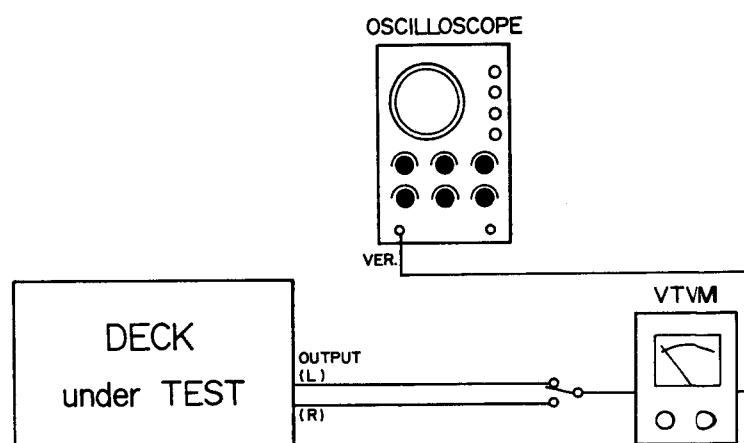

Fig. 11-3 SPECIFIED OUTPUT LEVEL
1. Make connections as shown in Fig. 11-3
1. Make the connections shown in Fig. 11-3 and set the deck in the Play/PAUSE mode.